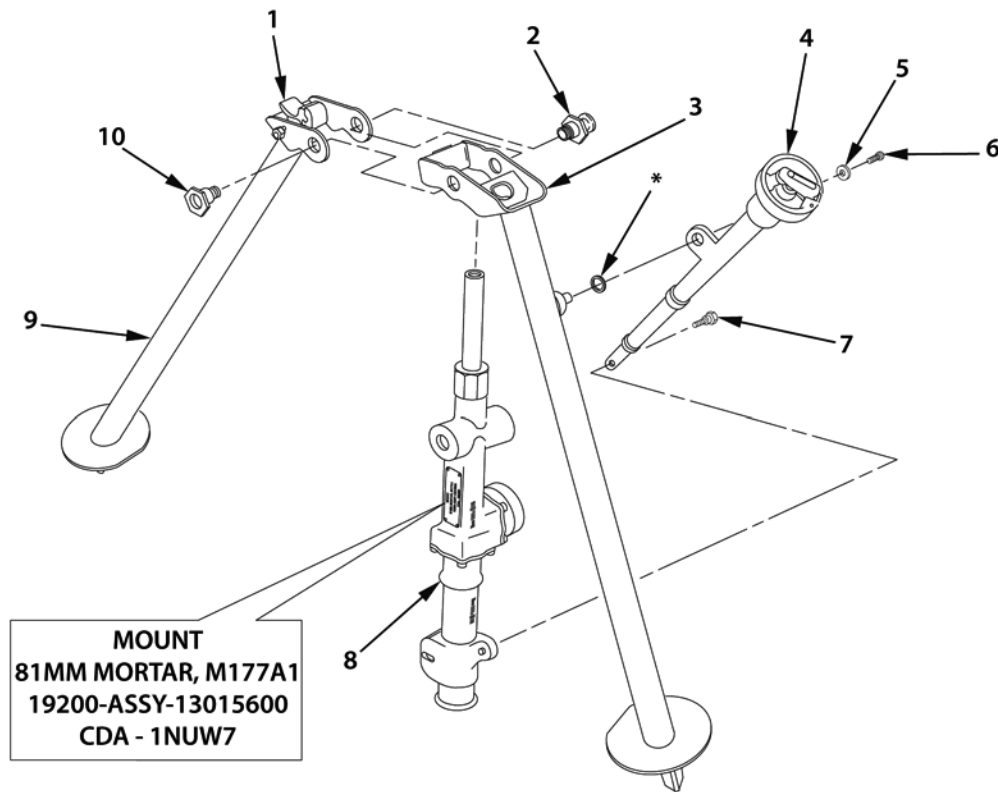

Figure 2. Disassembly of Mortar Legs.
5. Remove shoulder screw (Figure 2, Item 7) from rod end of cross leveling assembly (Figure 2, Item 4).
6. Remove socket head capscrew (Figure 2, Item 6) and flat washer (Figure 2, Item 5) and remove cross leveling assembly (Figure 2, Item 4) from left mortar bipod leg (Figure 2, Item 3).
7. Depress lock-release lever (Figure 2, Item 1) to release right mortar bipod leg (Figure 2, Item 9).
8. Remove leg mounting nut stow (Figure 2, Item 2) and leg mounting nut (Figure 2, Item 10).
9. Remove right mortar bipod leg (Figure 2, Item 9) and lift left mortar bipod leg (Figure 2, Item 3) from elevation housing assembly (Figure 2, Item 8).